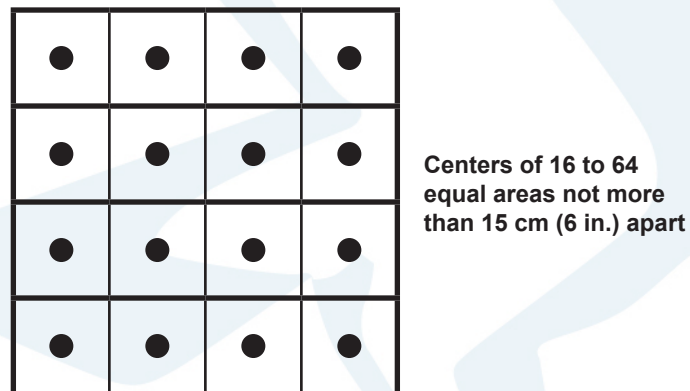

Figure 12 Locations to Take Air Velocity Readings for a Rectangular Duct
7. If the duct is rectangular, take air velocity readings at multiple locations in both the horizontal and vertical directions as shown in Figure 12 and record each reading.
- If the air velocity readings vary greatly from one side of the duct to the other, then the measurement point is likely too close to an elbow or other flow disruption to obtain an accurate reading. Attempt additional readings further away from the disruption for accurate results. See Figure 12 for a diagram of an ideal air velocity measurement location.